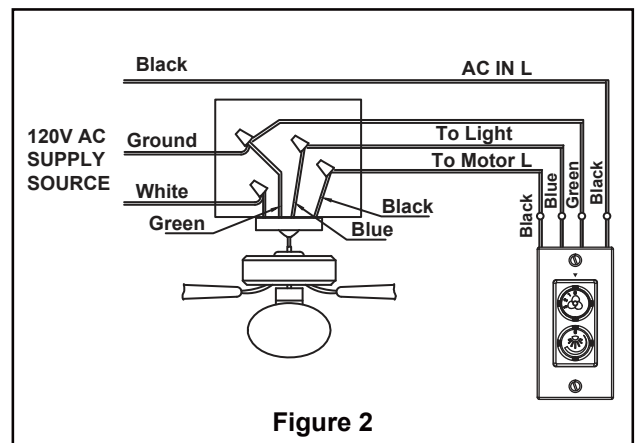

Figure 2
2. Set the knob and light switch of the wall-mounted control in the off (0) position.
3. Make wire connections and secure with wire nuts supplied. (Figure 2)
2. Securely attach and tighten the canopy screw cover over the shoulder screws in the hanger bracket utilizing the keyslot twist-lock feature. (Figure 2)